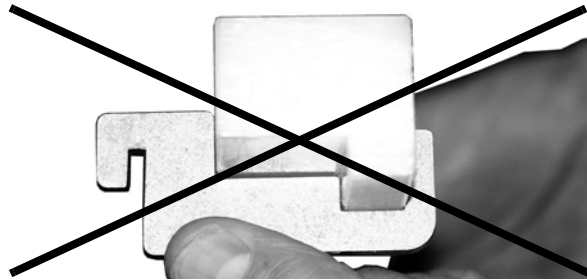
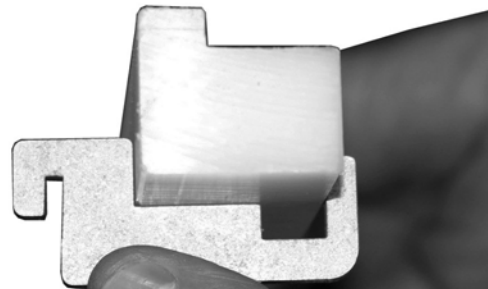

Figure 36
Figure 37
3. Verify that belt returns are mounted correctly by following graphic below (Figure 36) shows incorrect mounting and (Figure 37) shows correct mounting.